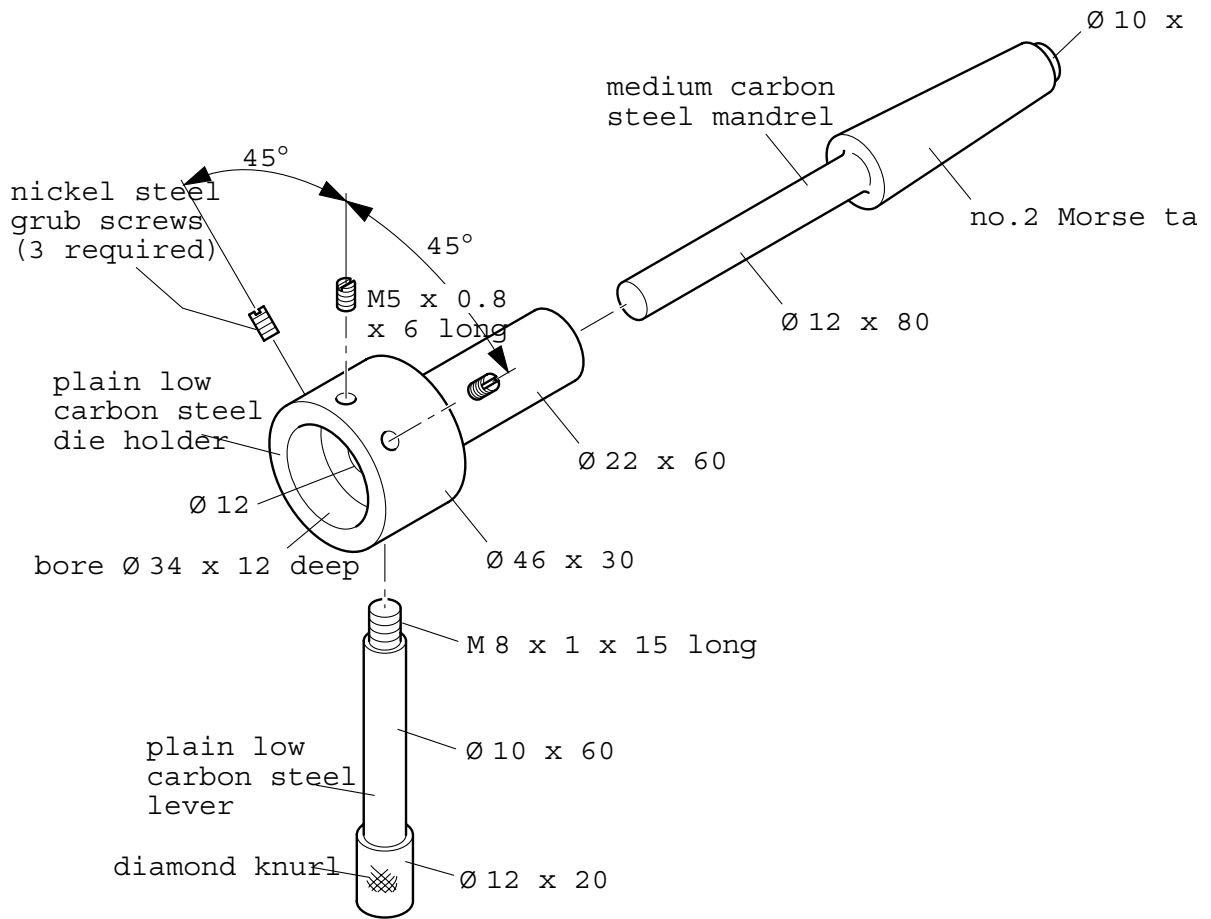

Fig.1
- 1 The exploded pictorial drawing of a threading device, used in the tailstock of a lathe, is shown in Fig. 1.